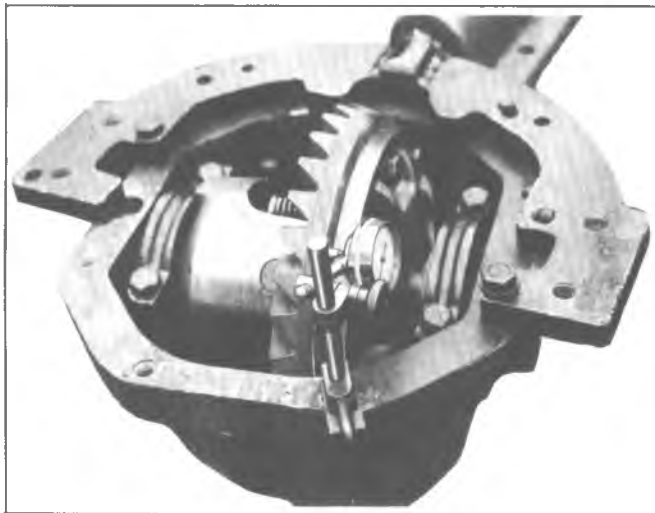

Fig. 14C--Checking Ring Gear Runout
18. If variation in backlash exceeds .003", measure ring gear and case runout as shown in figure 14C. Gear runout should not exceed .003"; should runout exceed this limit, check ring gear and case for deformation and/or foreign matter between case and gear.